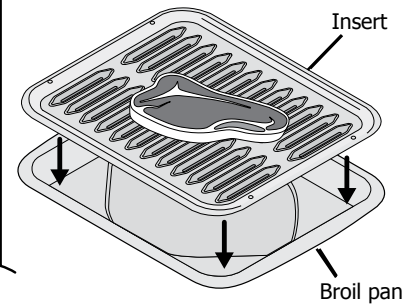

Fig. 2
5. Place the insert on the broil pan (some models; Fig. 2), then place the food on the broil pan insert.